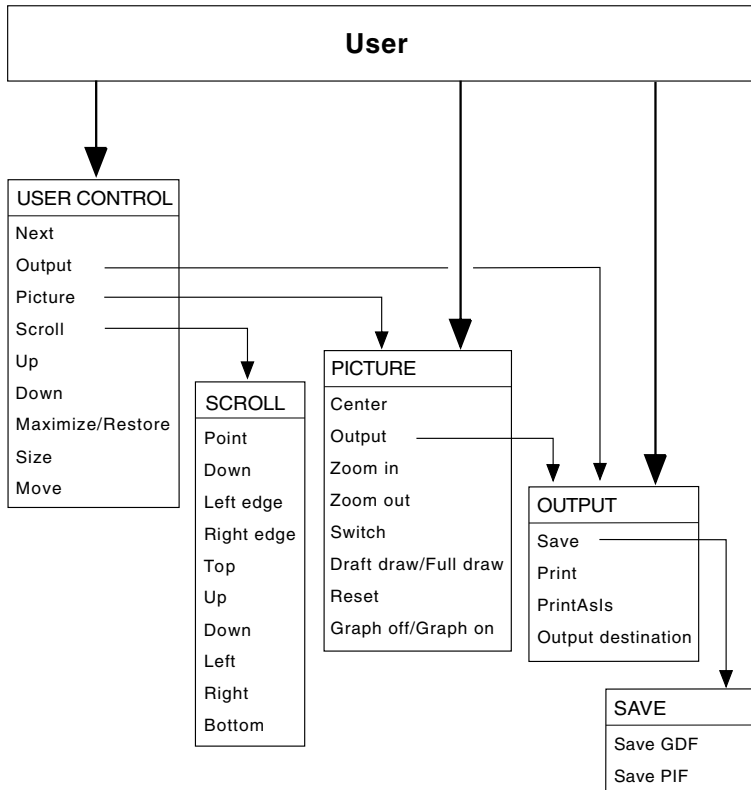

Figure 3. The five User Control menus
2. User Control starts and a menu is displayed at the bottom of the screen. There are five User Control menus (see Figure 3). Which one is displayed depends on how your system is set up, and on the type of terminal or workstation you are using.